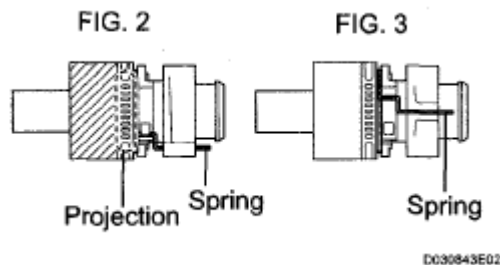

Fig. 169: Identifying Shift Cable Outer Spring Position
- b. When installing the transmission control cable assembly on the shift lever plate, place the projection to the shift lever plate (**Fig. 169**). Confirm that the spring in the shift cable outer has moved to the position (**Fig. 169**) shown in the illustration.